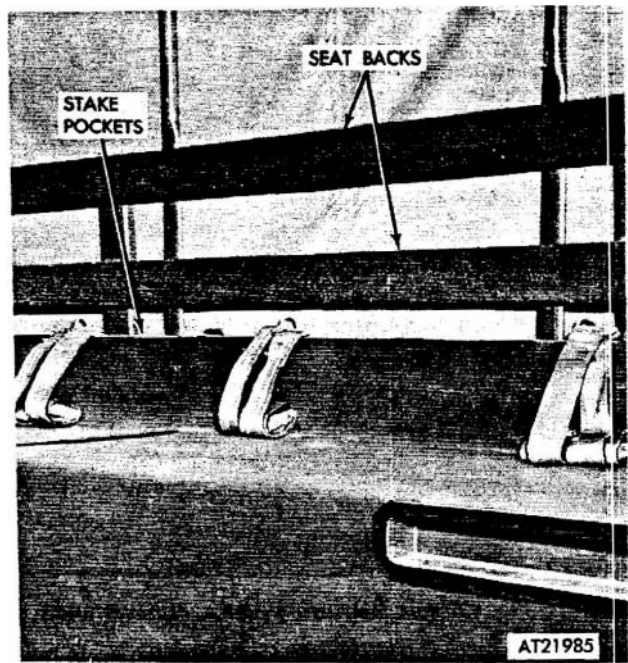

Figure 2-333. Carrier seat backs, removal and installation.
(1) Disconnect safety strap from seat back.
(2) Remove eyebolt, washer, and nut from seat back (refer to para 2-234).
(3) Lift seat back from stake pockets (fig 2-333).
(1) Install seat back on carrier with horizontal channels toward inside of carrier (fig 2-333).
(2) Position eyebolt seat back and secure with lock washer and nut (refer to para 2-234).
(3) Connect safety strap.